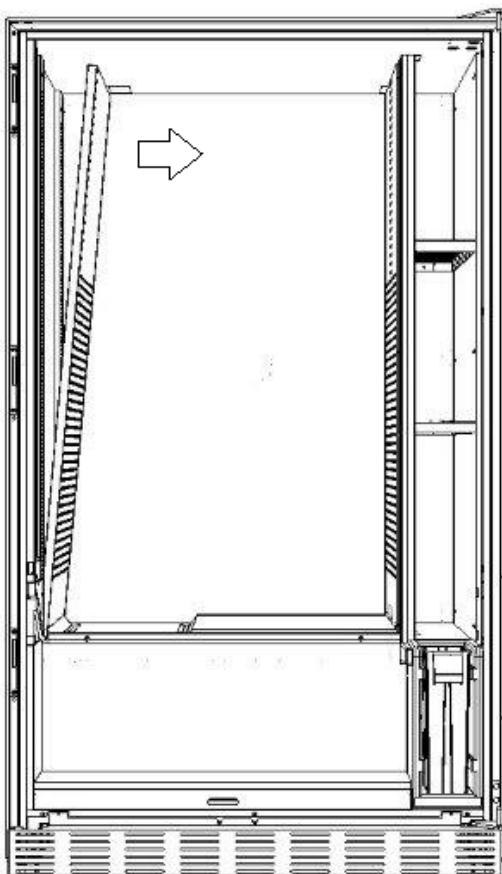

fig.8
- act on the top part of the perforated side-panel by pulling it towards the inside of the machine as in **fig. 8**.